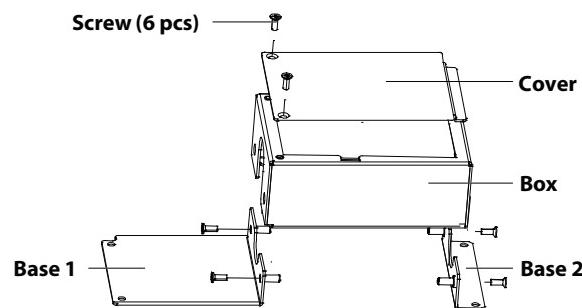

Figure 16: Splitting the box assembly
2. Take out the box assembly from the accessories and split it into cover, Box, Base 1 and Base 2, as shown in Figure 16. Set the six screws aside for reassembly of the hardwire box.